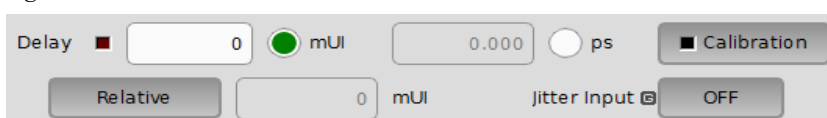

Figure 5.11.7-1 Clock delay setting items
- When executing jitter tolerance test, etc. by inputting jitter-modulated clock, set **Jitter Input** of Delay to **ON** to avoid malfunction of Delay caused by excess jitter modulation. (Refer to Figure 5.11.7-1.) When using the MU181000A/B (with Option 001 Jitter Modulation) or MU181500B, set **Jitter Input** of Delay to **ON**, and then set **Jitter Modulation** of the MU181000A/B or MU181500B to **ON**.